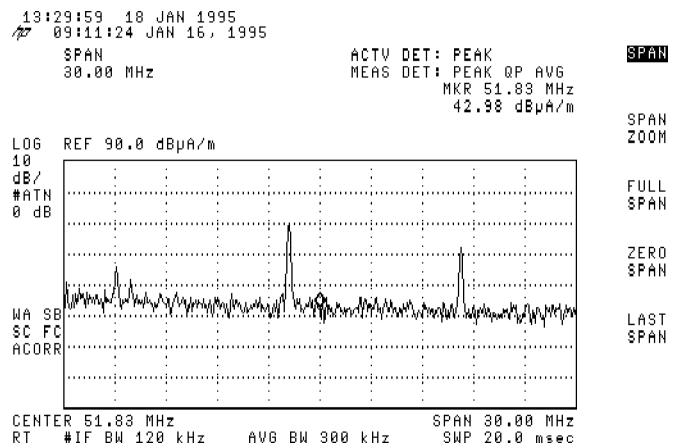

Figure 7-4. Reducing the span.
10. To reduce the span, use the keypad to input the desired span, for example, 30 . Refer to Figure 7-4.